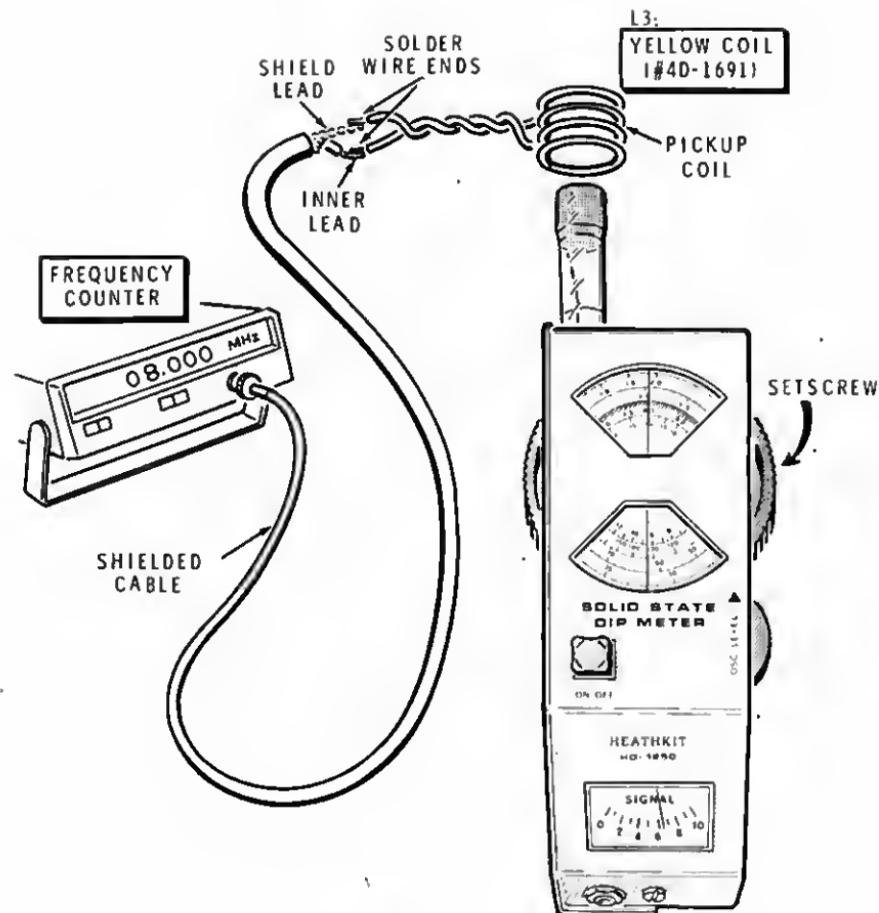

Figure 1-3
3. Connect one end of the wire to the inner lead of the shielded cable, and the other end of the wire to the shield lead of the shielded cable as shown in Figure 1-3.
- () Refer to Figure 1-3 and position the coil of the Dip Meter close to (or through) the pickup coil. Turn the tuning dial of the Dip Meter until a frequency is indicated on the counter that appears on the dial scale. For example, if you selected the green coil, a convenient frequency might be 25.0 MHz.